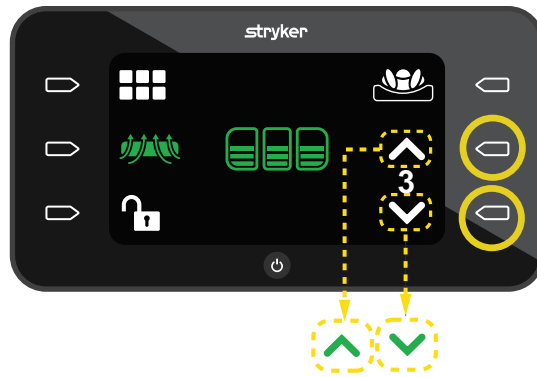

Figure 29 – Static mode on
3. Press the **Action** button next to the **up-arrow** or **down arrow** to increase or decrease the static pressure level from 1 to 5 (Figure 29).